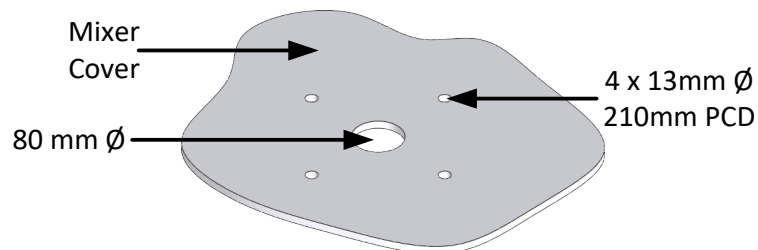

Figure 34: Mixer cover prepared for the Rotating Connector
- Using the Fixing Plate as a template, mark and drill four holes for the Mounting Studs (Figure 34).